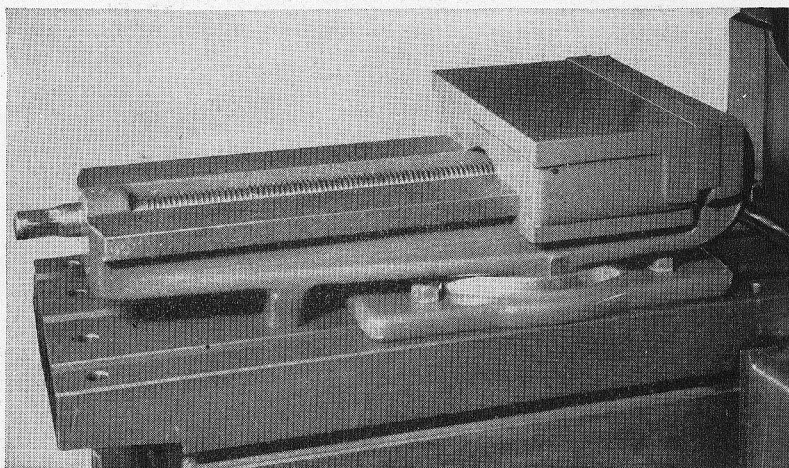

Fig. 2-12. A large-opening shaper vise. (*The Cincinnati Shaper Company*)
*Shaper Vise.* Figure 2-12 shows a large-opening vise used in shaper operations. The principal parts are the base, the body, the fixed jaw, the movable jaw, the screw, and the plates which are attached to the face of the jaws. The base is bolted to the table of the shaper and is graduated through an arc of 180 deg., with a zero (0) position on the